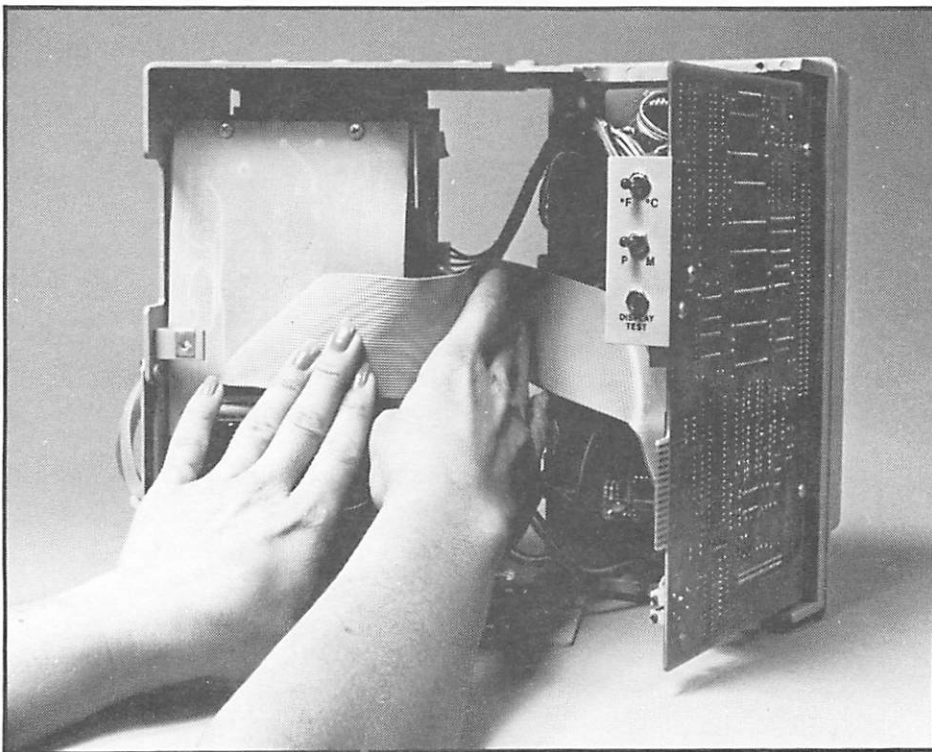

Figure 5-3. Closing the Monitor During Assembly
- b. Fold the cable as shown in figure 5-3, view A; then hold the cable as shown in view B. Swing the logic board (3)/front panel closed, and replace the phillips screw (45) on the rear of the logic board.